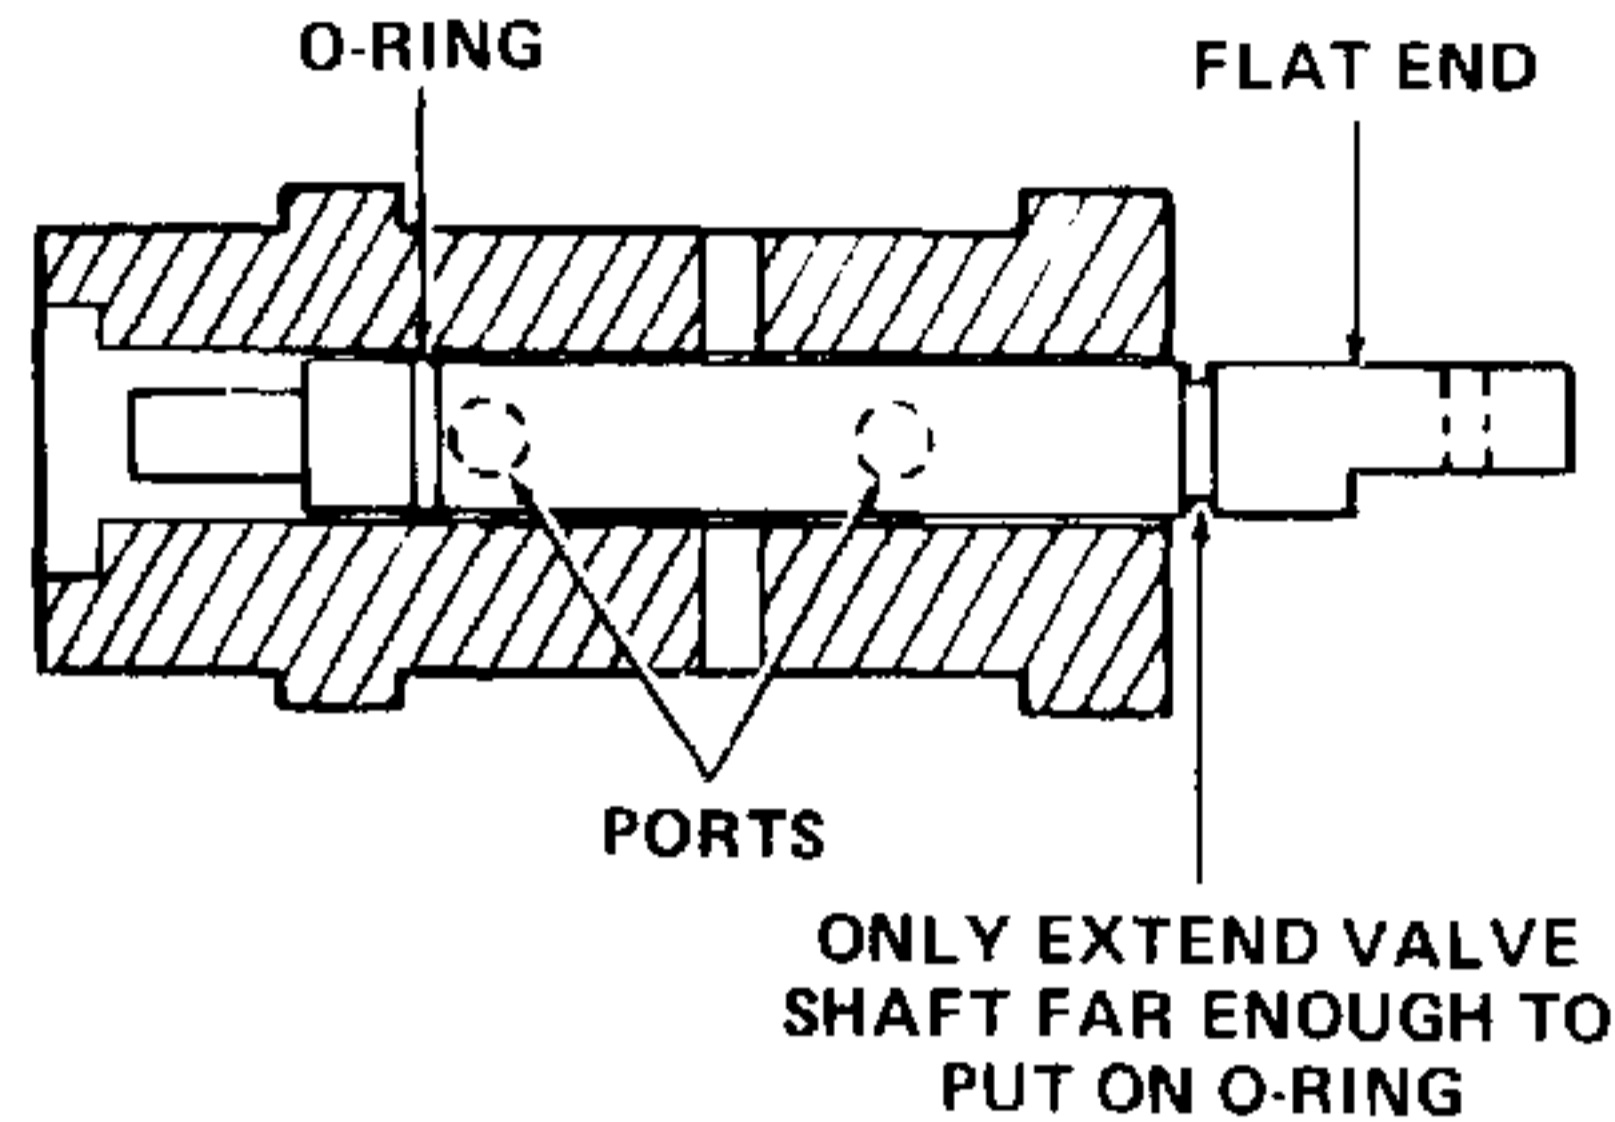

Figure 5-53A. Placement of O-Rings on Valve Shaft.
- c. Push valve shaft through valve body until O-ring groove on flat side of shaft is just outside of valve body. Refer to Figure 5-53A.